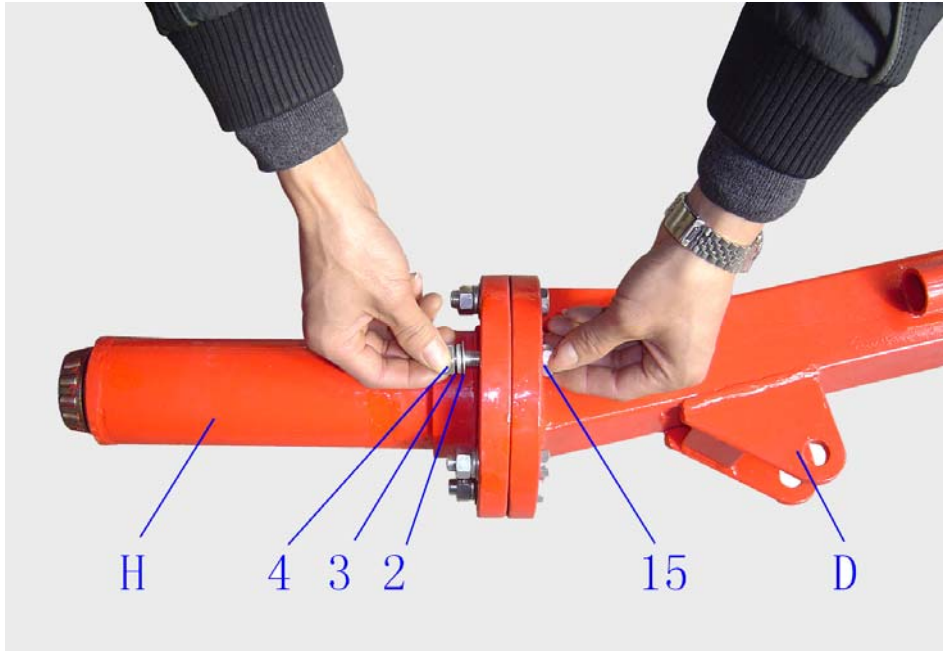

Fig. 1
Assemble the Turntable (H) to the Main Post (D) (See Fig. 1).